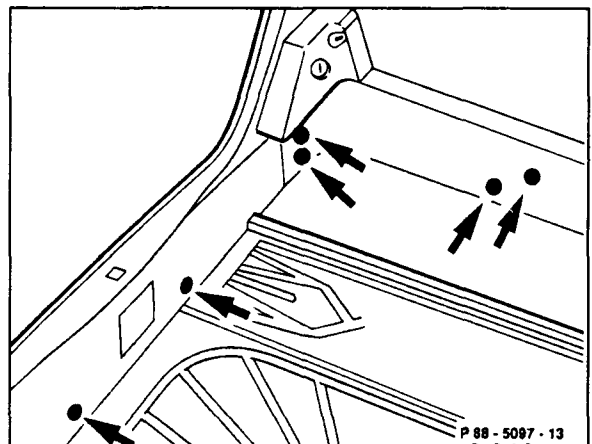

Figure 19
3. Remove bumper by removing mounting nuts on left and right side walls and along rear wall of trunk (arrows, Figure 19).